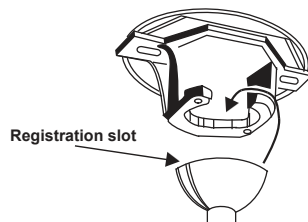

Figure 7
Step 7. Place the downrod ball into the hanger bracket socket. (Fig. 7)